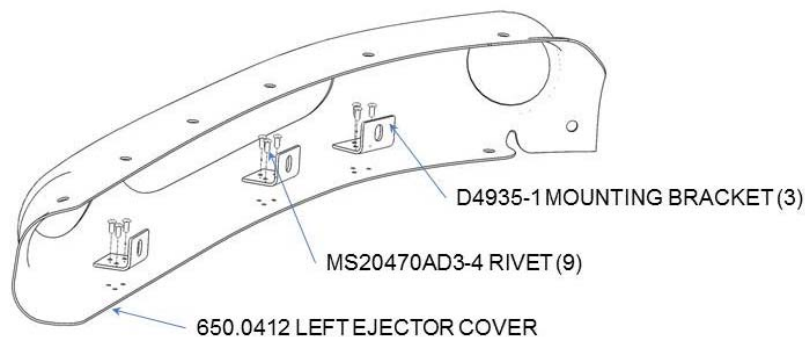

Figure 9 – Ejector Fairing Assembly
- 3.1.19. Drill 3 x $\varnothing 0.098$ " diameter holes per mounting bracket. Rivet the mounting brackets to the side fairing using Qty (3) MS20470AD3-4 Rivets per bracket per Figure 9.